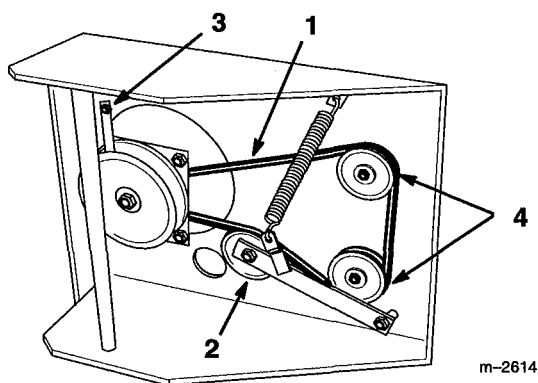

Figure 31
4. Remove left front engine mounting bolt securing clutch retainer to frame (Fig. 31). Unhook retainer from clutch and remove retainer.